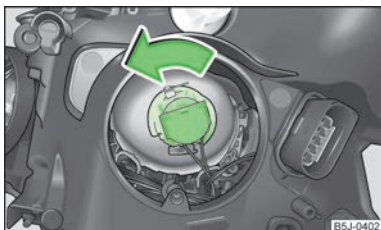

Fig. 145
- Turn the connector with the bulb in **anti-clockwise** direction up to the stop » Fig. 145 and remove it.